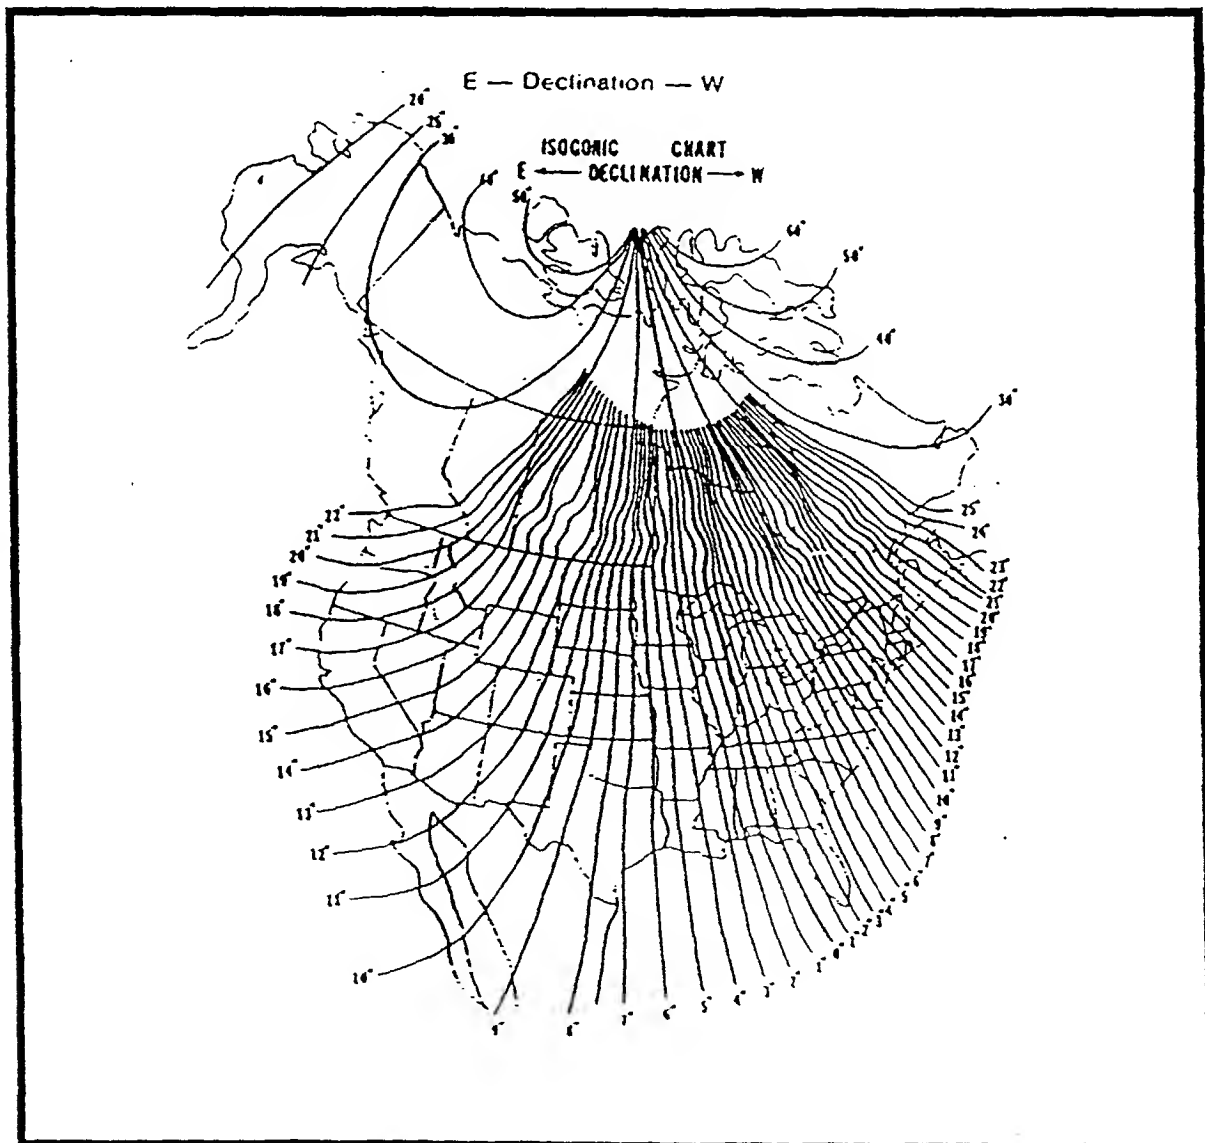

Fig. 3: Magnetic Declination Map
1. First, determine the Magnetic Declination in your area using the Isogonic Chart (Fig. 3)